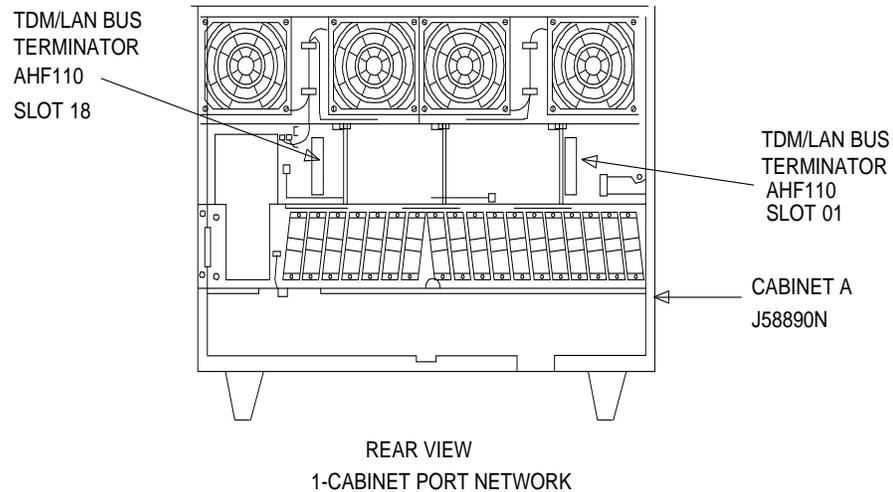

Figure 3-7. Locations of TDM/LAN Bus Terminators for Single-Cabinet EPN
1. If the DEFINITY G3si PPN being upgraded to a DEFINITY ECS R5r EPN has only one cabinet, verify that the two AHF110 TDM/LAN bus terminators are located per Figure 3-7.